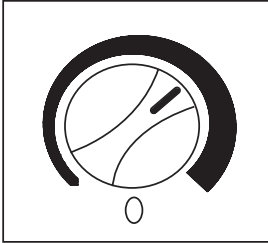

Fig.1
- When maximum cooling is achieved, turn back the temperature control knob setting to the 2 o'clock position on the graduated blue control dial. See Fig.1 on following page.